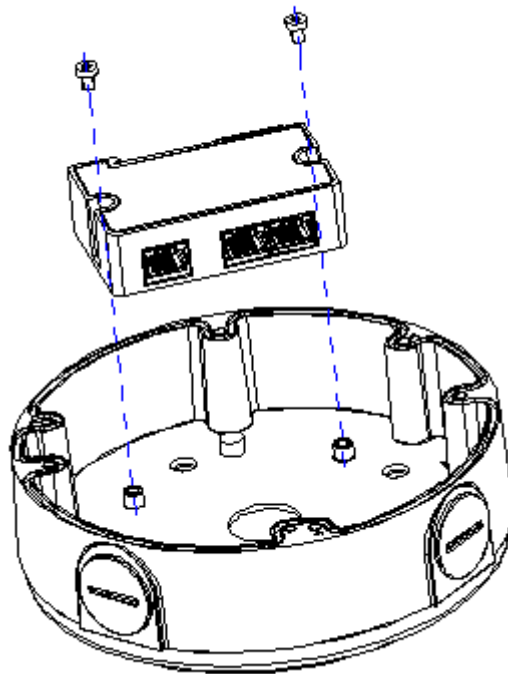

Figure 3-1
| 1. | The junction box internal mounting is shown in Figure 3-1. | 5 |
1. The junction box internal mounting is shown in Figure 3-1.